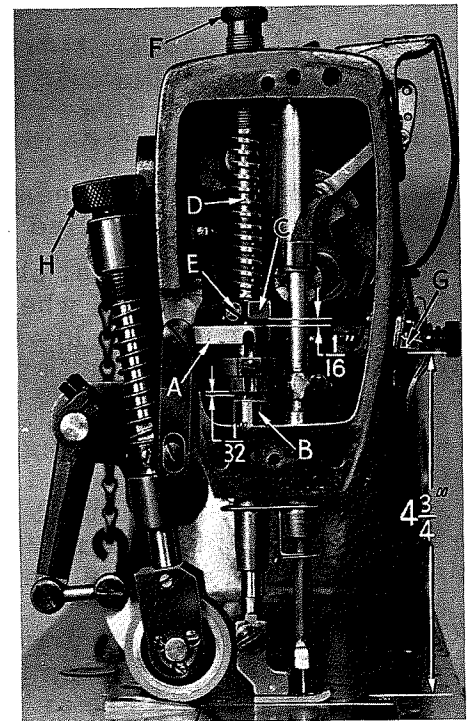

Fig. 16A
The presser bar connection (A, Fig. 16A) should be set so that it is approximately  $\frac{1}{32}$  inch above the lower presser bar bushing (B, Fig. 16A). This is accomplished by tipping the machine back against the rest pin, loosening the lock nut (A, Fig. 15 - Cat. No. 121 M) and relocating the stop screw (B) on the lifter lever bell crank (C). By turning the stop screw to the right or left, the proper setting of the presser bar connection is accomplished. Tighten the lock nut (A) to lock the stop screw in place.
When locating the presser bar guide (C, Fig. 16A) the presser foot must rest directly against the throat plate with the feed dog in its lowest position. The guide is set properly when there is a  $\frac{1}{16}$  inch space between the bottom of the presser bar guide (C) and the top of presser bar connection (A, Fig. 16A).
Set the thread pull-up bracket (G, Fig. 16A), so that the underside of the wire is  $4\frac{3}{4}$  inches above the throat plate (Fig. 16A).
Make sure there is enough pressure on the material going under the puller roller. The puller should cross over seams uniformly, but be sure there is enough pressure to ensure good feeding. Turning the regulator (H, Fig. 16A) clockwise increases and counterclockwise acts the reverse.